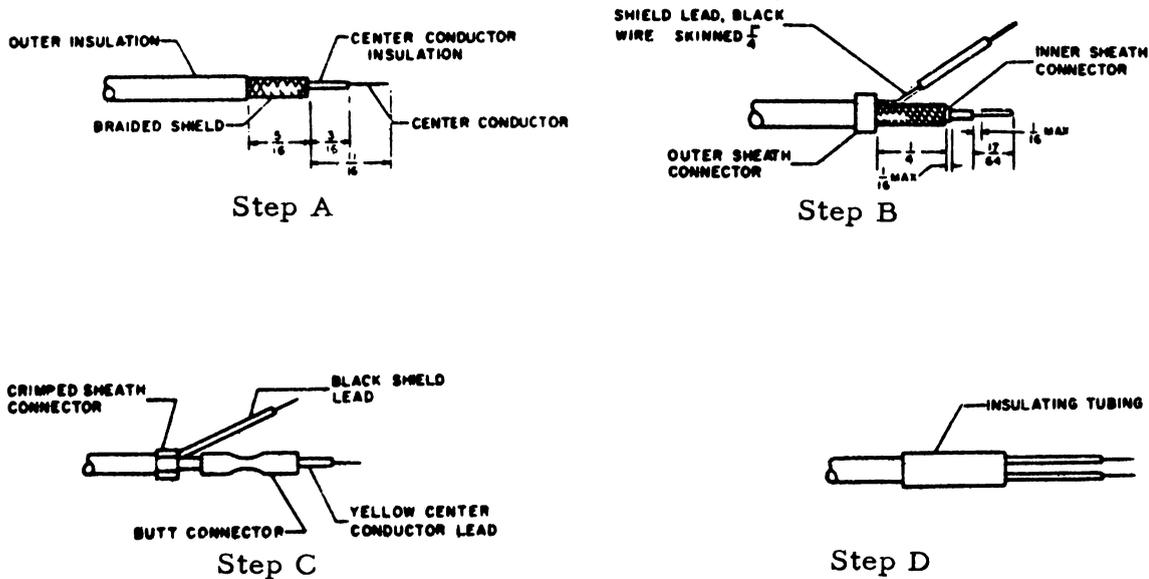

Figure 4-7
Figure 4-7 illustrates the four procedural steps involved in terminating a coaxial cable. Proceed as follows:
b. Push the outer sheath connector over the braid within $1/4$ inch from the braid end. Then insert the inner sheath connector over the center conductor insulation and under the braid. (See B, Figure 4-7.) This inner sheath connector must not extend more than $1/16$ inch beyond the coaxial shield. If required, place the shield lead wire against the braid. This wire must contact the braid for $1/4$ inch of its surface, as shown in B. Now pull back the outer sheath over the shield lead wire so it is positioned directly over the inner sheath connector. At this stage, this outer sheath must be crimped with the appropriate tool. (See Figure 4-7C.)